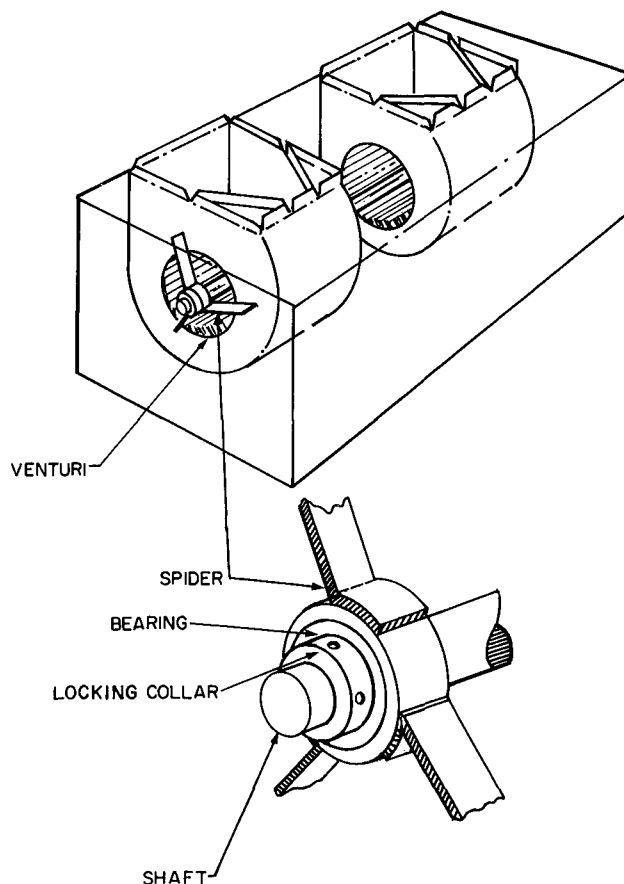

Fig. 10 – Size 016 and 024 Fan Shaft and Bearing Arrangement
Units 50BJ,BK016 and 024 – Shaft bearings are supported by spider (Fig. 10). If shaft and wheels are concentrically misaligned due to shipping shock, it is possible to rebend spider arms to original positions. Replace the spider if it has been extensively damaged by shipping shock.
1. Loosen setscrews holding bearing locking collar at each end of shaft (Fig. 10 or 11).